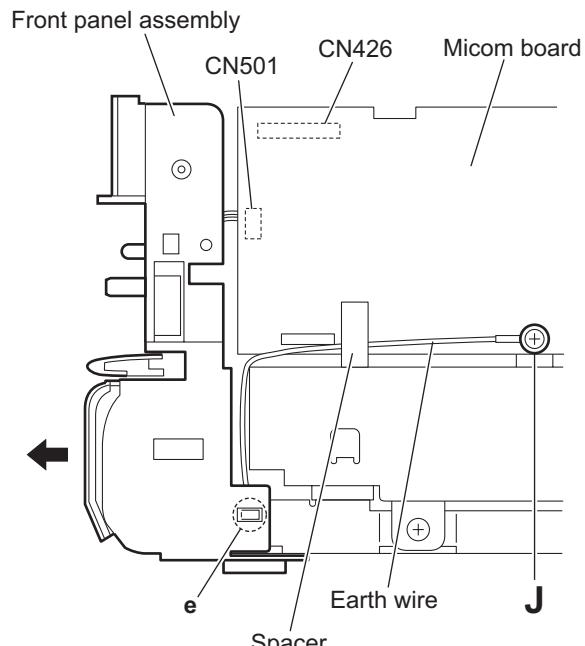

Fig.8
- (2) From the forward side of the micom board, disconnect the card wire from the connector **CN426**. (See Fig.8.)
- (3) Disconnect the wire from the connector **CN501** on the micom board. (See Fig.8.)
- (4) From the right side of the main body, remove the screw **J** and remove the earth wire. (See Fig.8.)
- When attaching the screw **J**, attach the earth wire with it. (See Fig.8.)
- After attaching the earth wire, fix it with the spacer as before. (See Fig.8.)